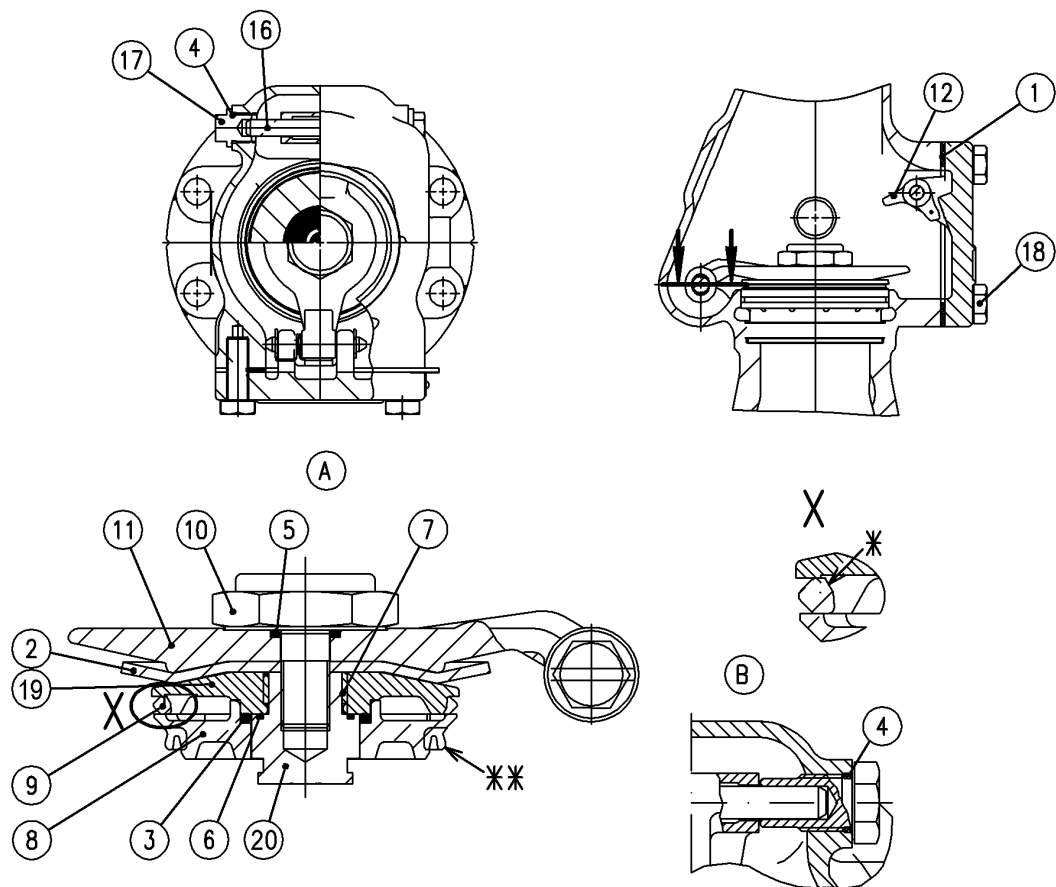

Fig. 27: Alarm valve complete
Make sure the marking "TOP" on the spring washer faces upwards! (see Fig. 27 detail "X")
** The vulcanized grooved ring cannot be replaced. If it is damaged, the guide ring (Fig. 27/8) must be ordered.